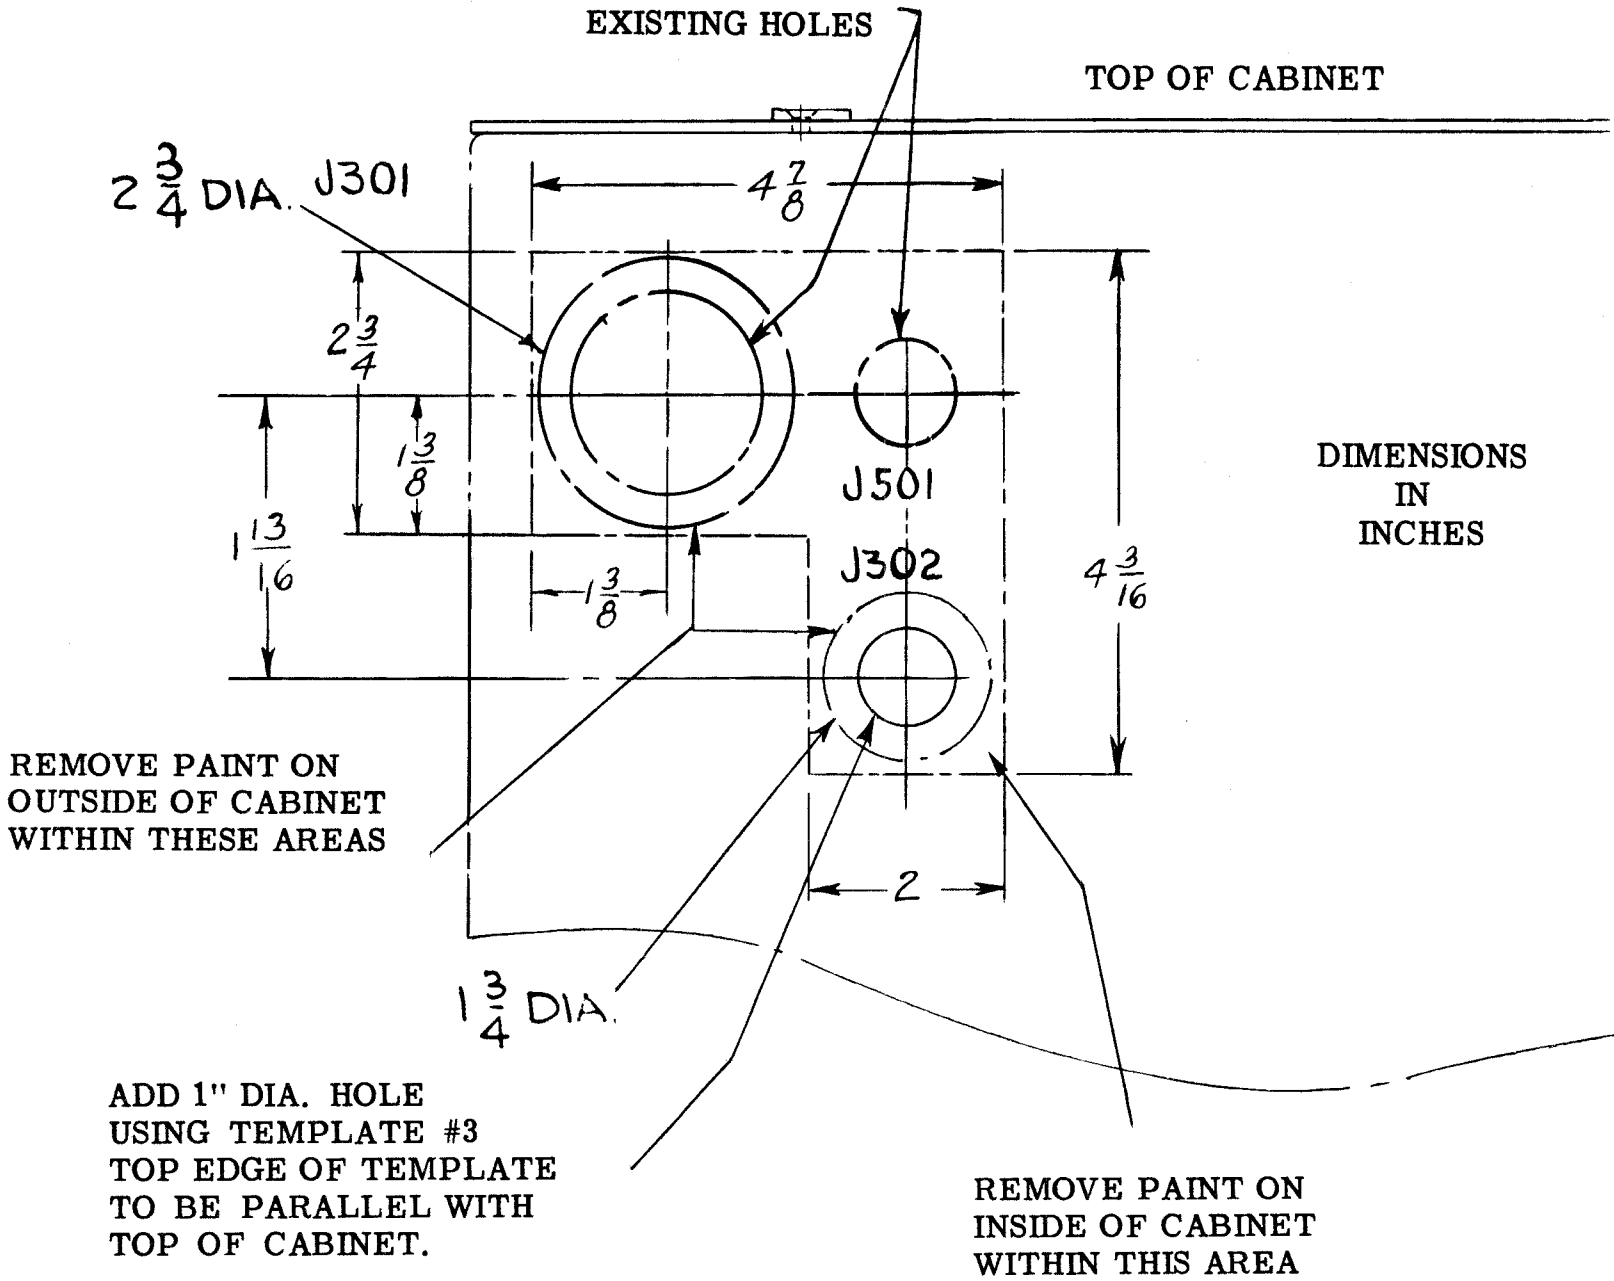

Figure 3-3. Cabinet Drilling, RBB/RBC Receivers, for Installation of Receiver Coupling Kit
**d. CABINET DRILLING.**—See Figure 3-3.
- (1) Cut out template No. 3. See Figure 3-3.
- (2) Drill the additional (one-inch diameter) hole.
(3) Remove the paint on the inside and outside of the cabinet as shown on Figure 3-3.